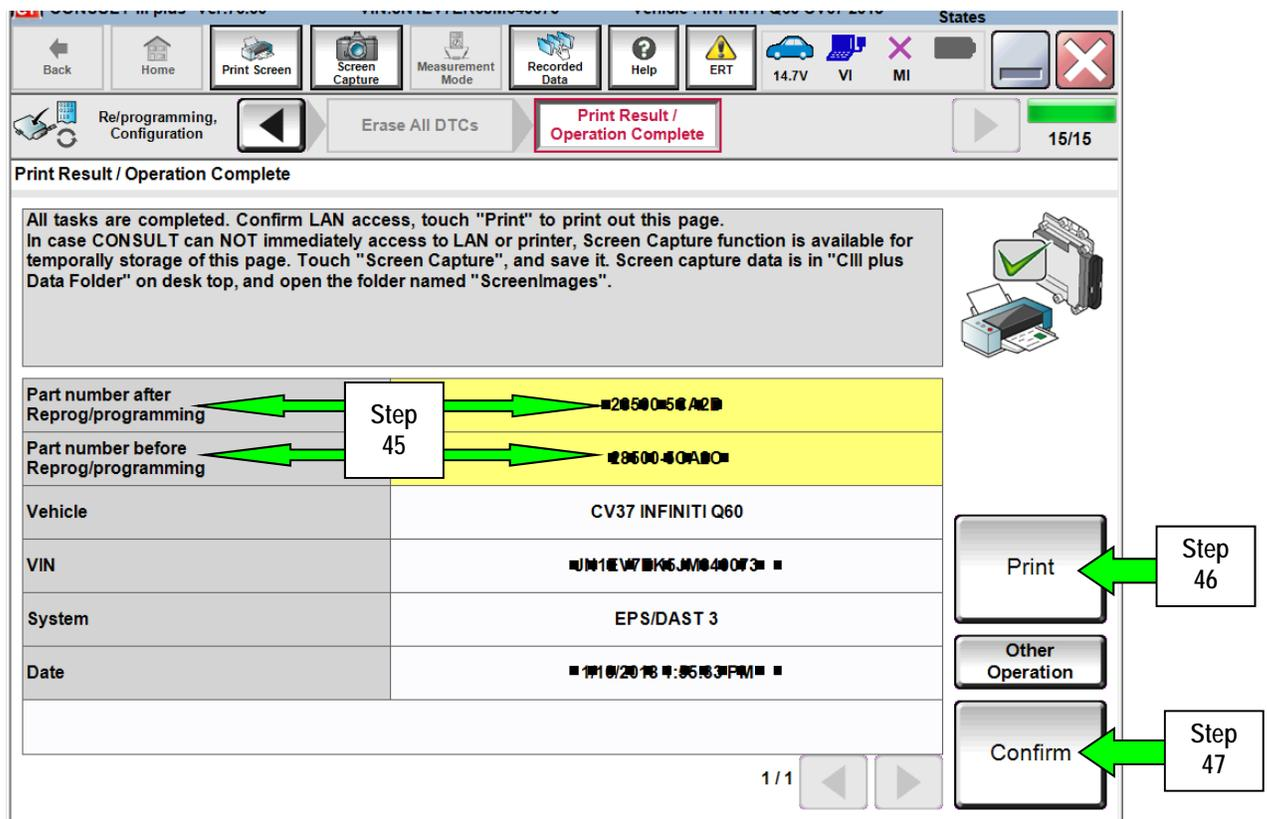

Figure 28
46. Print a copy of this screen (Figure 28) and attach it to the repair order for warranty documentation.